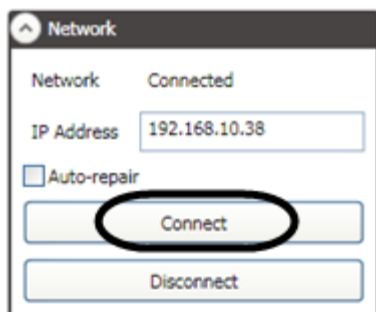

Figure 117
2. In the **Network** section of the **Motor Editing Pane**, click the **Connect** button (Figure 117).